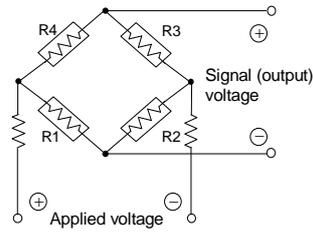
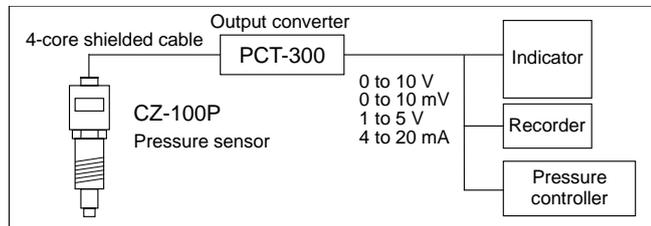

Fig. 1
Fig. 2 Block diagram of resin pressure system
elastic body. In this case, as shown in the attached diagram (Fig. 1), the elastic body is in such construction that by the application of force stretching strain occurs in R1 and R3, while shrinking strain in R2 and R4 to increase the gauge resistances of R1 and R3 and to decrease those of R2 and R4. These resistance changes are detected as bridge voltage change to generate the output proportional to the force applied. The output thus generated is input to the PCT-300 output converter which can finally output the DC voltages of 0 to 10 V, 0 to 10 mV, 1 to 5 V and 4 to 20 mA from its output terminals via a 3-stage amplifier circuit.
- If the sensor is installed in the upright direction (Fig.1-A), it may be affected directly by heat flow from heater or heat source (rising current of heated air). In such a case, the temperature of the strain gauge in the sensor may exceed an allowable maximum temperature of 150 °C. In order not to exceed this limit temperature, it is necessary to keep the sensor outer cylinder surface at a temperature of less than 134 °C (Fig.2). Conduct the following treatments.